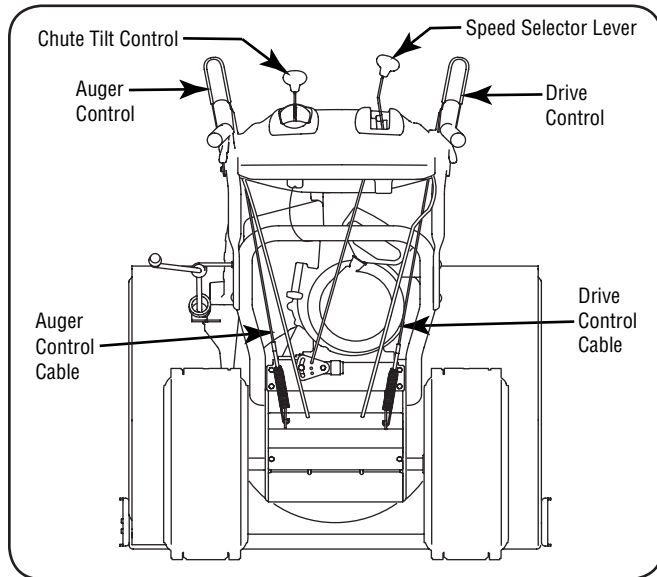
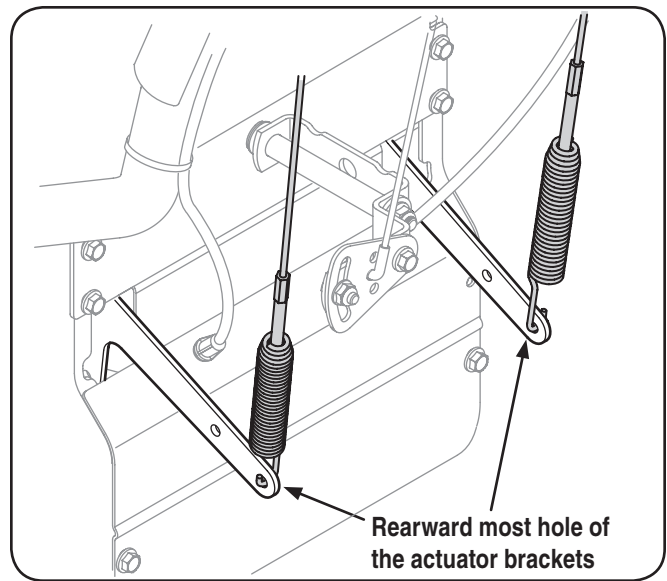

Figure 3-10
Figure 3-11
3. Looking beneath the handle panel, check that all of the cables (steering, auger, shift, and drive) are properly routed and not pinched or kinked. Make certain the springs at the lower end of the auger and drive cables are securely hooked into their respective actuator bracket. See Figure 3-10.
1. When the auger control is released and in the disengaged "up" position, the cable should have very little slack. It should NOT be tight. Refer to Figure 3-10.
4. Allow the auger to remain engaged for approximately ten (10) seconds before releasing the auger control. Repeat this several times.
1. With the engine turned off, move the speed selector lever into sixth (6) position. Refer to Figure 3-10.
1. From beneath the handle, pull downward on the appropriate cable and unhook the spring found on the end of the cable from its respective actuator bracket. Refer to Figure 3-10 and Figure 3-11.